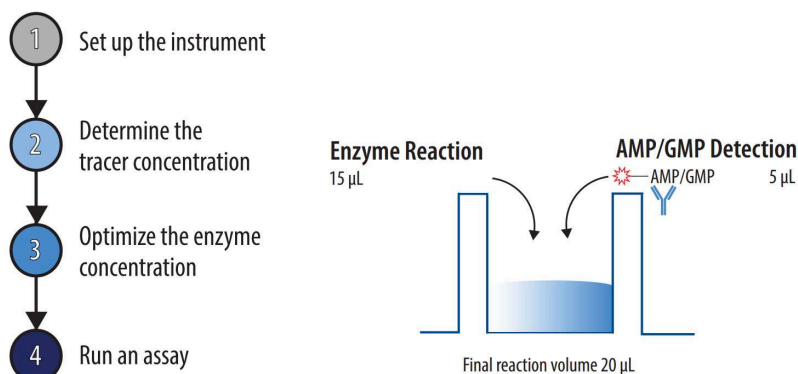

Figure 2. An outline of the procedure. The assay consists of 4 main steps with a mix-and-read format.
- 4 The Transcreener® AMP²/GMP² FP Assay protocol consists of 4 steps (**Figure 2**). The protocol was developed for a 384-well format, using a 15 µL enzyme reaction and 20 µL complete assay volume at the time that the plates are read. The use of different densities or reaction volumes will require changes in reagent quantities.